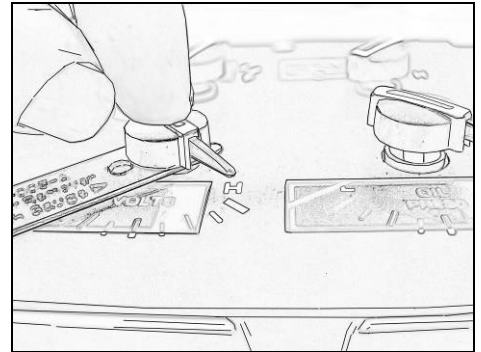

Figure 12
- C. Using the “Depth Gauge” end of the Pointer Remover Tool, locate it under the pointer cap and press on the top center of the Pointer Cap pushing straight down until the bottom of the pointer cap rests on the Tool (see figure 12).
- D. Verify that all pointers are setting above the graphic appliqué surface, approximately the thickness of the Pointer Remover Tool (see figure 12). Make sure that no pointers are rubbing on the appliqué surface. If they are rubbing, **Refer to Step 5** to remove the pointer, and then re-install the pointer using these above steps.